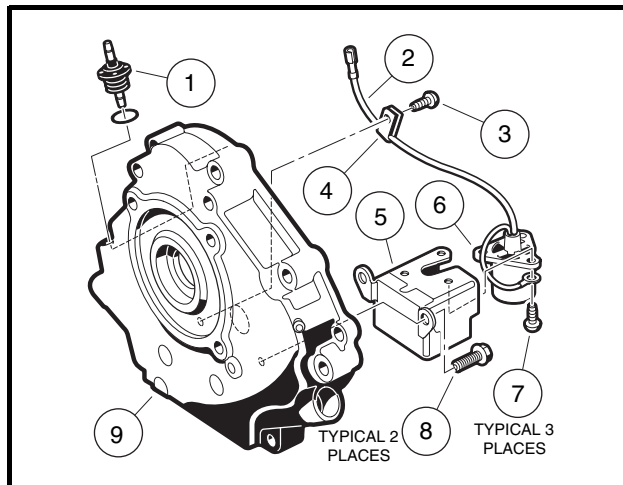

Figure 13-4 Crankcase Cover Installation
2. Disconnect the oil level sensor wire (2) from the cord connection (1) (**Figure 13-4, Page 13-6**).
3. Remove the two mounting screws (8) from inside of the crankcase cover and remove the oil level sensor and bracket.
1. If the oil level sensor was removed from the bracket, install sensor (6) into bracket (5) and secure with three screws (7) and tighten to 17 in-lb (1.9 N·m) (**Figure 13-4, Page 13-6**).
2. Position the sensor and bracket on inside of crankcase and install two mounting screws (8).
3. Connect sensor wire (2) to cord connector (1).
4. Install screw (3) through wire clamp and into crankcase cover. Tighten to 30 in-lb (3.4 N·m).